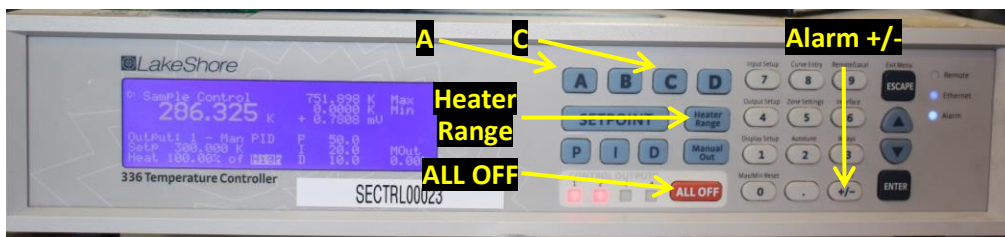

Figure 2. LakeShore336 controller
- c. Turn off all heaters by hitting the red “ALL OFF” button on the front of the LakeShore 336 controller, (Figure 2). The adjacent red lights for Control Outputs 1 & 2 should turn off.